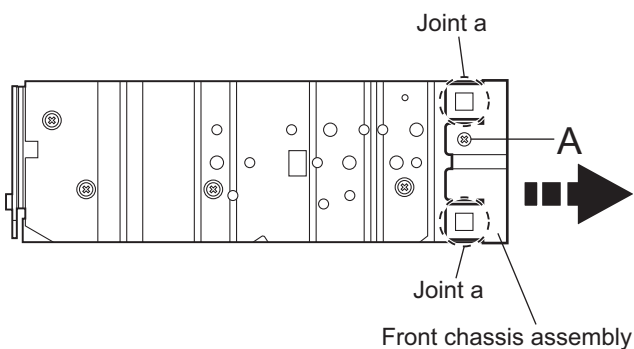

Fig.2
2.1.2 Removing the front chassis assembly (See Figs.2 and 3)